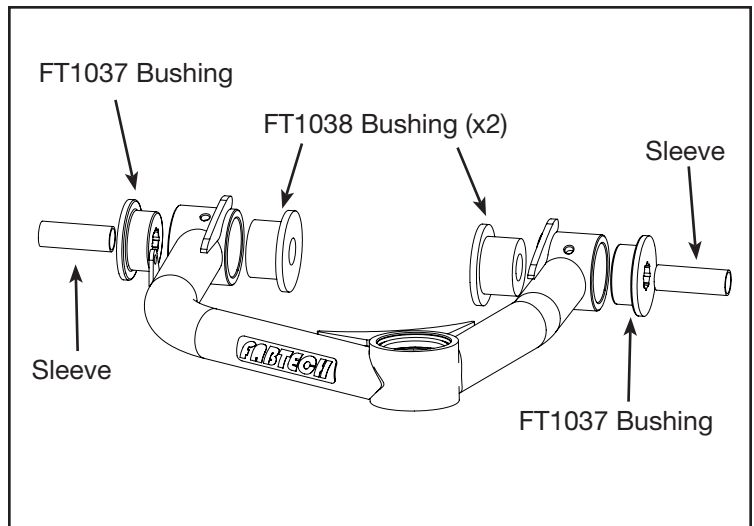

FIGURE 3 - STEP 5
5. Locate the new Fabtech control arms, two FT1038 bushings, two FT1037 bushings, two FT84 grease zerks, and two sleeves. Using the supplied grease packet, grease the bushings and sleeves before installing into the control arm. **SEE FIGURE 3**